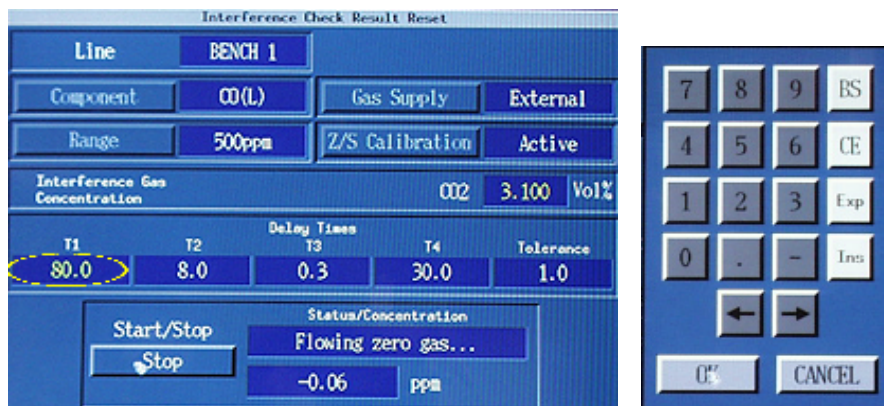

Figure 14
- 112 Verify that the field under “T1” contains “80.” See the circle in Figure 14. If not, click in the yellow user changeable field under “T1” and use the on-screen keypad, See Figure X, to enter “80.” Click on “OK.”